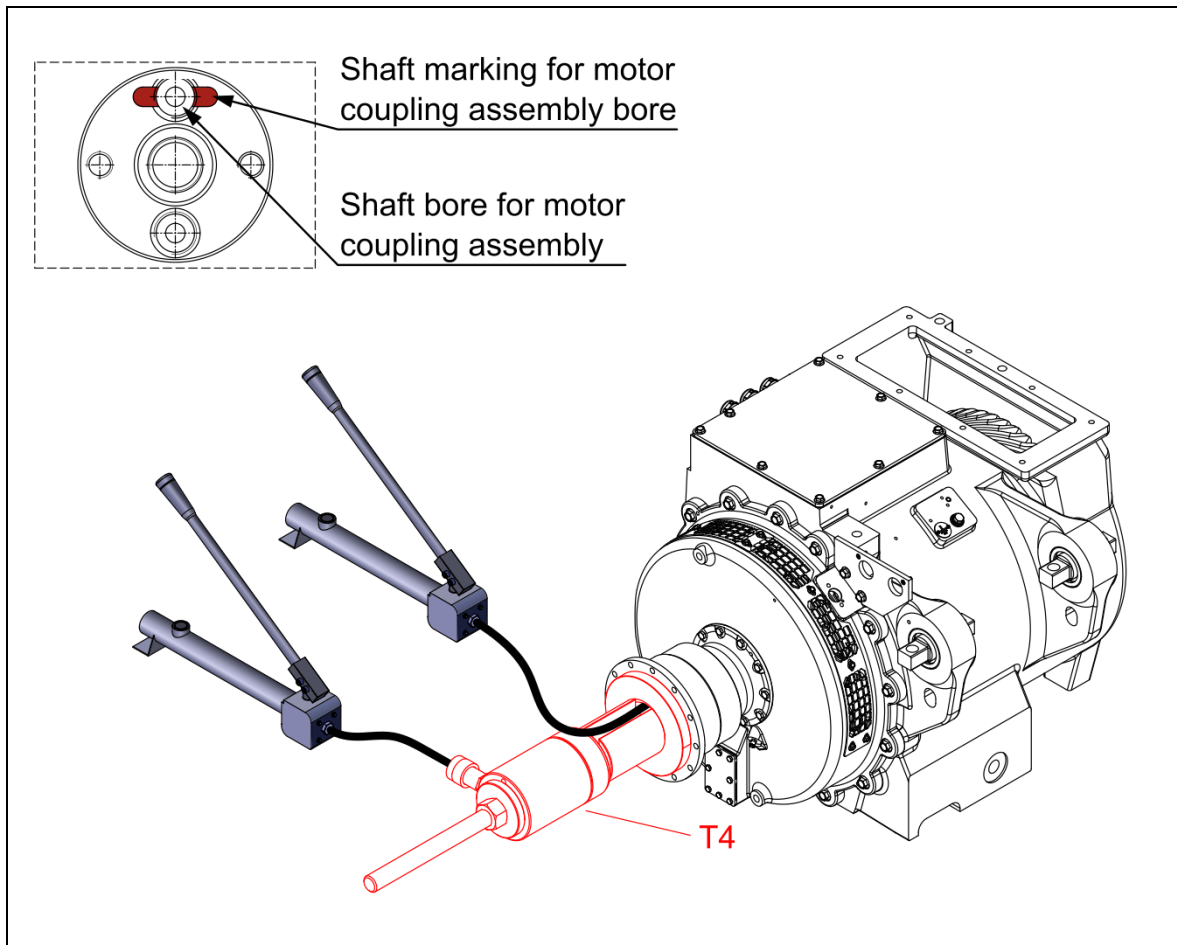

Figure 43: Assembling the traction motor gear coupling half
- 2 Pay attention to designations on the rotor's shaft for mounting the gear coupling half – see Figure 43.